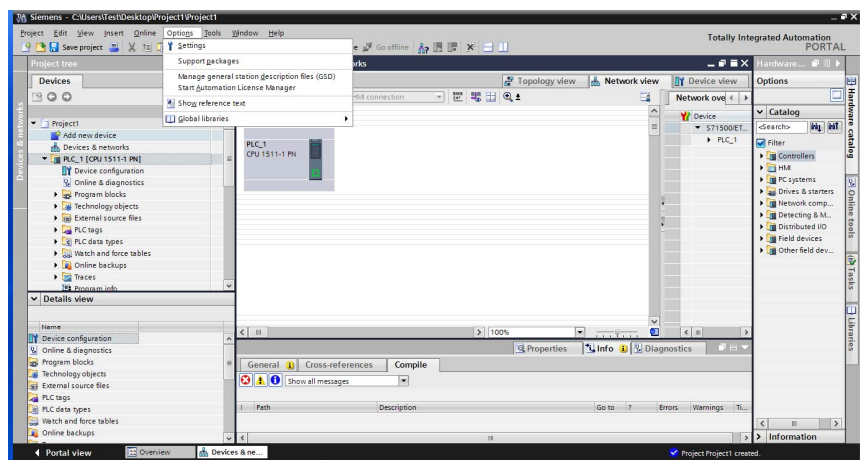

Figure 77. Main Test Project Window
1. Go to the **Options** dropdown menu (see Figure 77) and select **Manage general station description files (GSD)**.